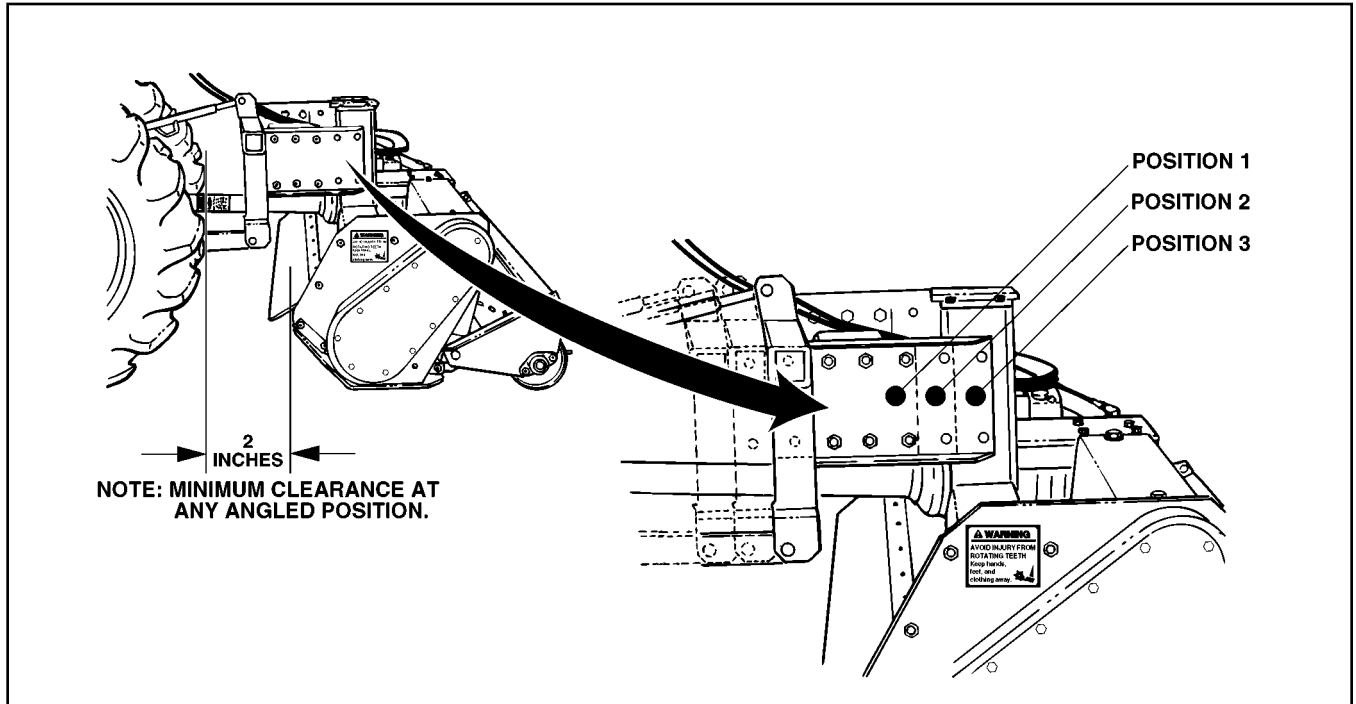

FIGURE 3 Hitch Frame Mounting Positions
**NOTE:** Hitch frame can be mounted onto the main frame in one of three positions to accommodate various tractor configurations. (See Figure 3.) Hitch frame should be positioned so that space between the main frame and rear tractor tire is minimum of 2 inches in any position of lift travel and in fully-angled positions.
**NOTE:** If excessive vibration or shuddering occurs when the PTO is engaged on the tractor, changing the mounting position of the hitch frame can often eliminate it. Move the hitch frame forward one position at a time (See Figure 3) until the vibration subsides.